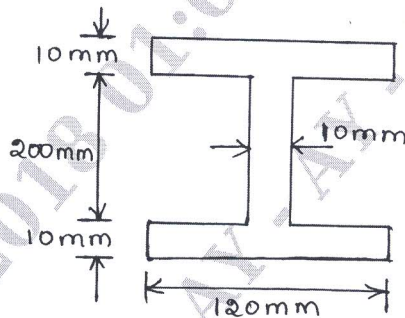

Fig.Q7(b)
b. The cross – section of a beam which is subjected to a shear force of 50kN is shown in the fig.Q7(b). Sketch the shear stress distribution across sections. (10 Marks)